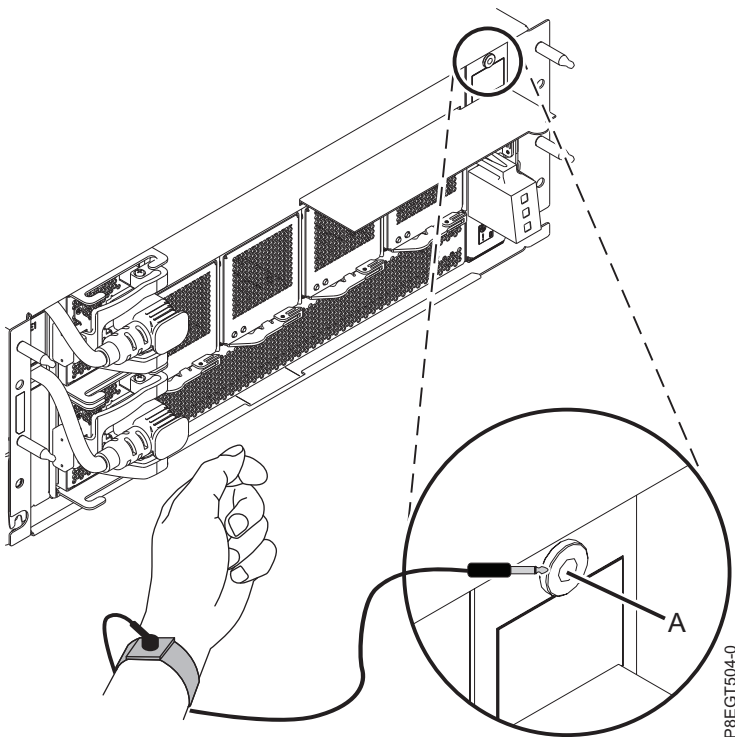

Figure 2. Attaching the ESD wrist strap to the front ESD jack
5. Attach the electrostatic discharge (ESD) wrist strap. Your system has an ESD jack. Plug the ESD wrist strap into the ESD jack that is located at the front of the system. See Figure 2.